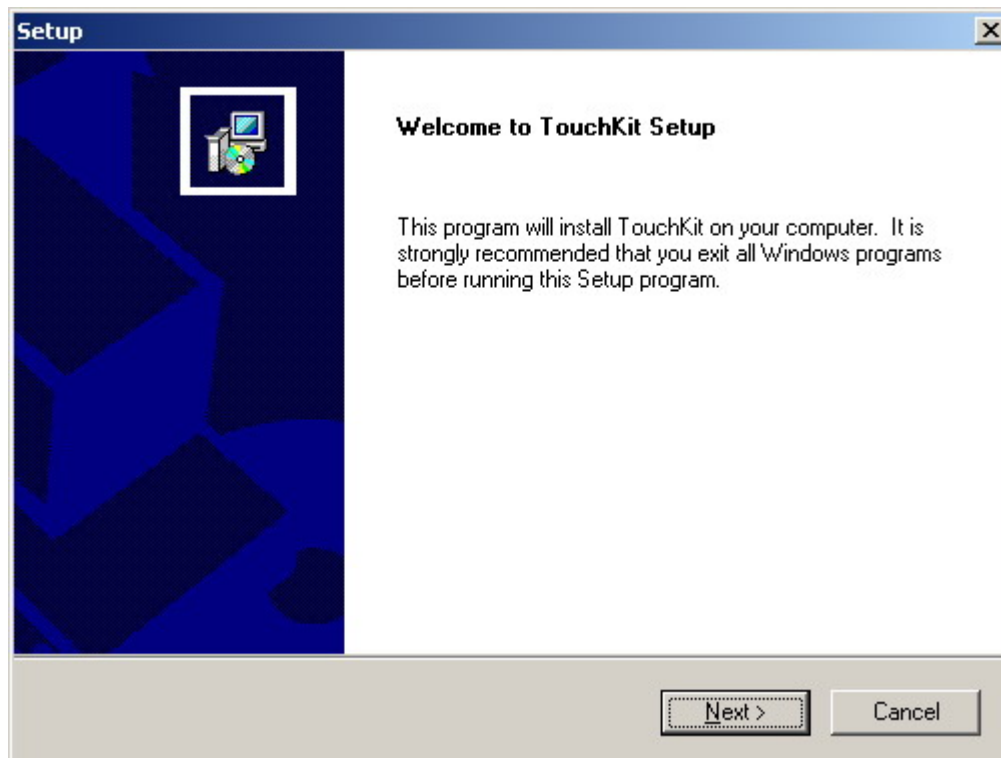

Figure 7-3: Welcome Screen
Step 5: After the Install Shield Wizard is ready, a welcome screen appears (**Figure 7-3**).